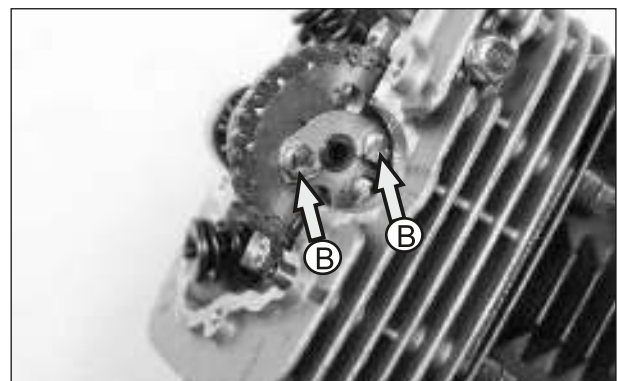

Fig. 3.54
- loosen and remove the 2 nos. hexagonal bolt M6x12 from sprocket cam shaft mounting. (B) (Fig. 3.54)